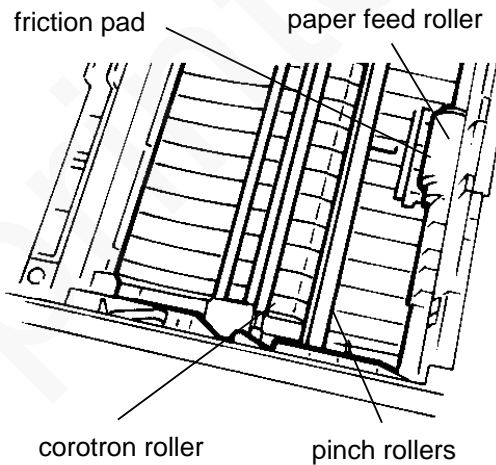

Figure 4. Printer Area
- paper feed roller (Figure 4),
- feed roller friction pad (Figure 4),
- rubber pinch roller (Figure 4),
- metal pinch roller (Figure 4),
- corotron rubber roller (Figure 4),